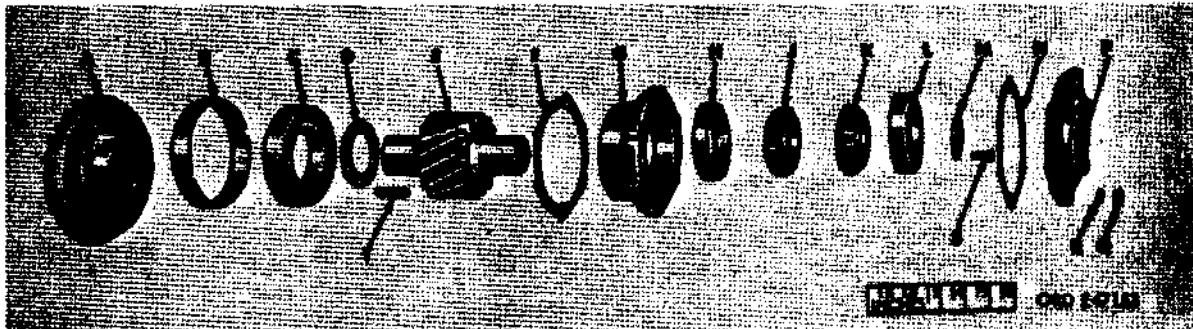

Figure 363. Helical drive pinion assembly - exploded view
- (10) Disassemble helical drive pinion outer bearing cage (fig. 363). Using suitable adapter, press outer bearing cups (H and L) and outer bearing cones (J and K) from outer bearing cage (G).
- (12) Disassemble helical drive pinion (fig. 363). Remove key (T) and bearing spacer (D) from helical drive pinion (E).
- (13) Remove hypoid drive gear. Remove setscrew (L, fig. 361) from carrier top cover surfaces. Using a long punch or drift, place end of punch in recess or notch provided in opposite sides of bearing sleeve (B, fig. 363). Drive bearing sleeve from carrier. Do not permit bearing sleeve to become cocked in carrier case, as damage to